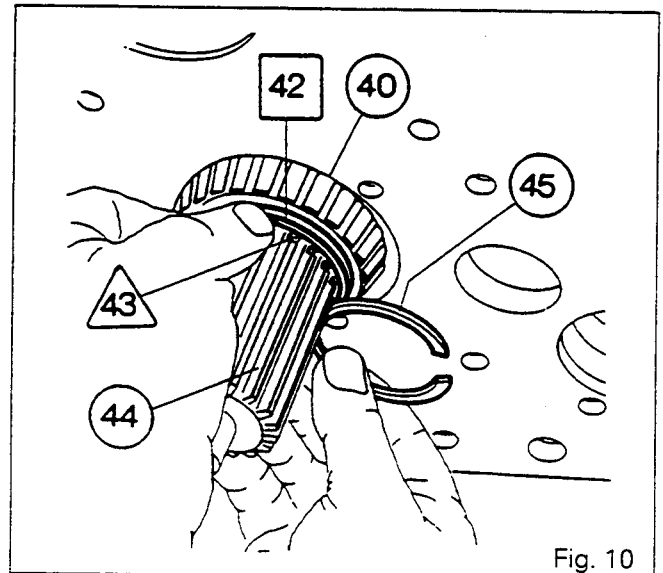

Fig. 10
Fill the gap **Y** between the rear of the cone (40) and the groove for circlip (45) with shims [42] and the packing shim /43/. Choose a new circlip that provides a slightly tight fit in the groove (Fig. 10).